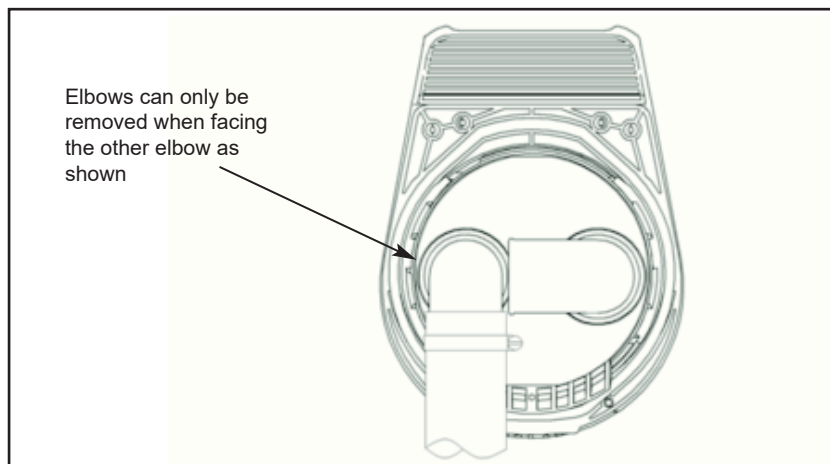

Fig.8 Disconnection Position of Elbows
3. The elbows can be removed and hoses attached prior to installation by turning the elbows to a point where the outlet/inlet elbow directly faces the other elbow and then pulling out. See fig. 8 (below).
3. Remove elbows from ports (see Fig.8).